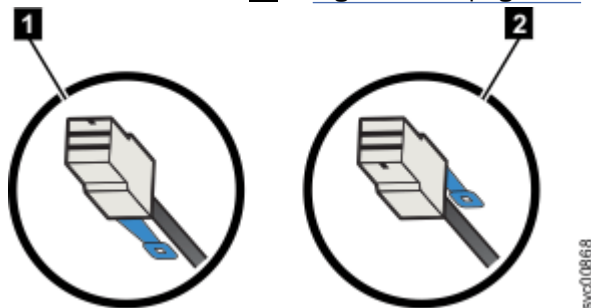

Figure 62. SAS cable connector orientation
When you insert SAS cables, make sure the connector (Figure 62 on page 106) is oriented correctly.
- For FlashSystem control enclosure node canisters and 2U expansion enclosures, the blue pull tab must be below the cable (**1** in Figure 62 on page 106).
- For 5U expansion enclosure canisters, the blue pull tab must be above the connector (**2** in Figure 62 on page 106).